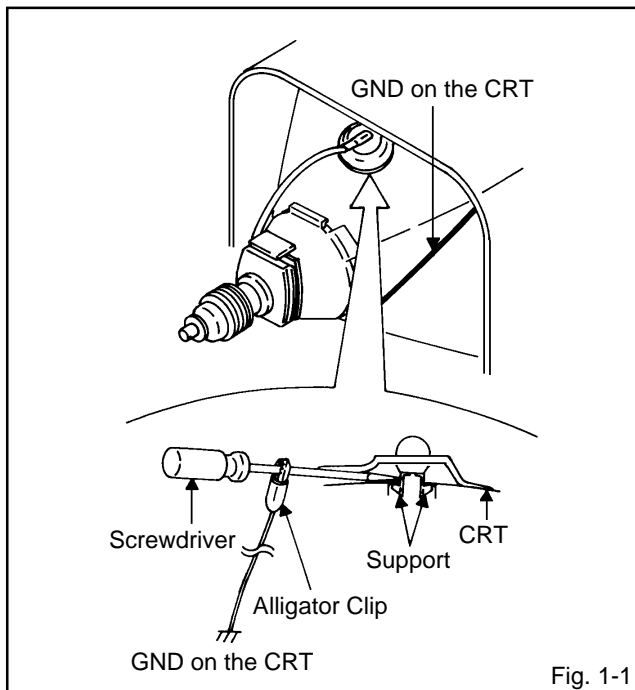

Fig. 1-1
1. Follow the steps as follows to discharge the Anode Cap. **(Refer to Fig. 1-1.)**
Press the VOL. DOWN button on the set and the channel button (9) on the remote control for more than 1 second to appear the adjustment mode on the screen as shown in Fig. 1-1.
3. Activate the adjustment mode display of Fig. 1-1 and press the channel button (02) on the remote control to select "RF AGC".